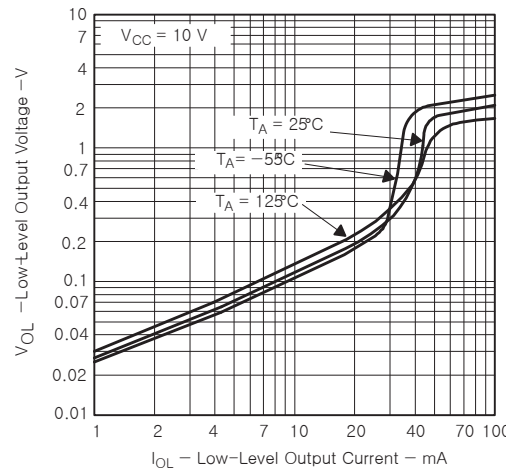

Figure 2. Low-Level Output Voltage vs Low-Level Output Current
4. Values specified are for a device in a monostable circuit similar to Fig. 2, with component values as follow: $R_A=2\text{K}\Omega$ to $100\text{ K}\Omega$, $C=0.1\mu\text{F}$.